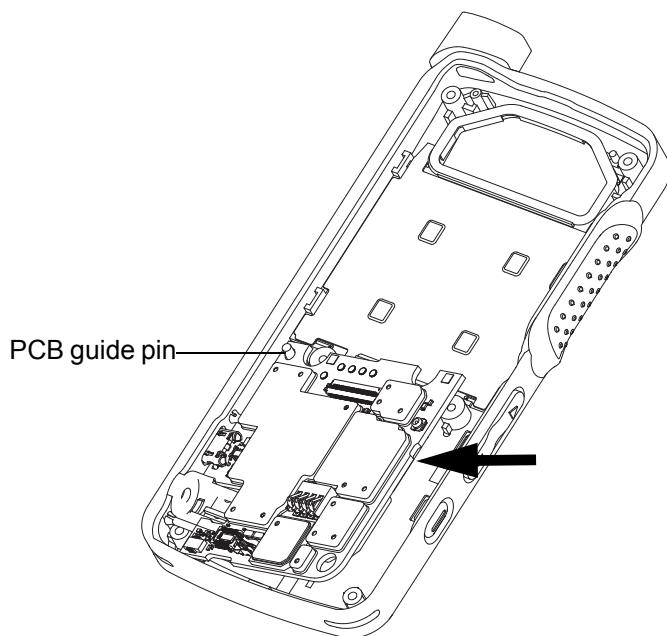

Figure 5-15. Lifting of PCB board
3. Lift the PCB upwards and away from the PCB guide pin as shown in Figure 5-15.